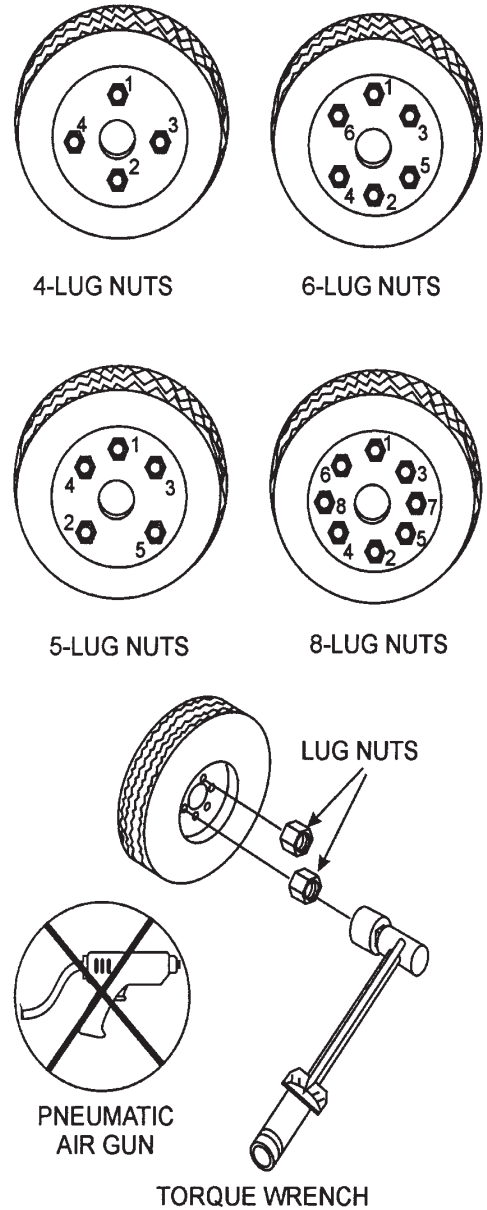

Figure 57. Wheel Lug Nuts Tightening Sequence
12. **Lug Nuts** — Used to secure the wheel to the wheel hub. Always use a torque wrench to tighten down the lug nuts. See Table 16 and Figure 57 for lug nut tightening and sequence.
2. Torque all lug nuts in sequence (see Figure 57). **DO NOT** torque the wheel lug nuts all the way down. Tighten each lug nut in 3 separate passes as defined by Table 16.